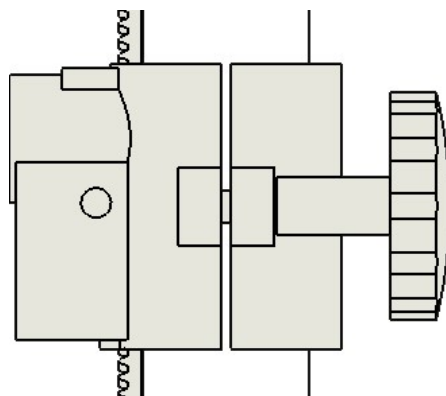

Figure 11
Step 12 Put hand wheel clamp pad screwed to the support clamp hole, securely tighten and then fixed the worktable . Figure 11